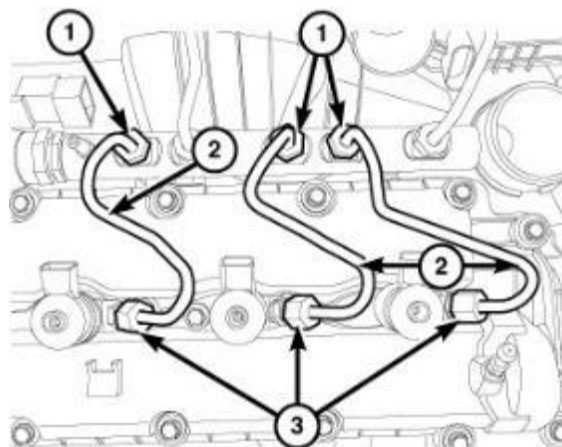

Figure 21 – Fuel Tubes (Left Side Shown, Right Side Similar)
17. Unscrew the union nuts (1 and 3) and remove and discard the left and right-side fuel tubes (2) (Figure 21).